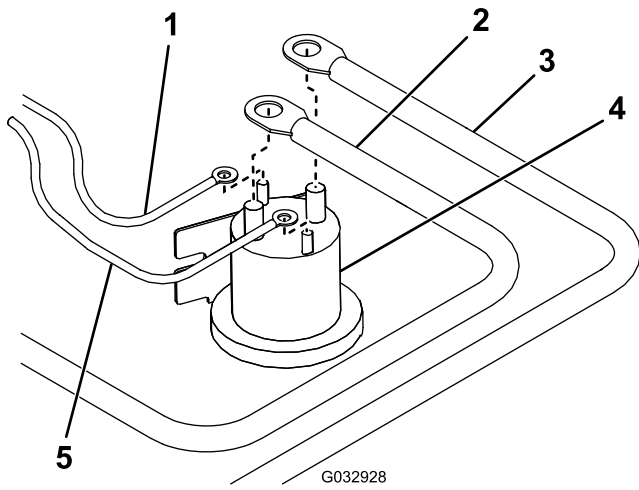

Figure 22
18. Connect the white/black wire from the wire harness to the small post on the pump solenoid (Figure 22).
19. Connect the brown wire from the wire harness to the other small post on the pump solenoid (Figure 22).
21. Connect the red power/ground cable to the large post on the pump solenoid (Figure 22).
22. Connect the battery cable to the other large post on the pump solenoid (Figure 22).